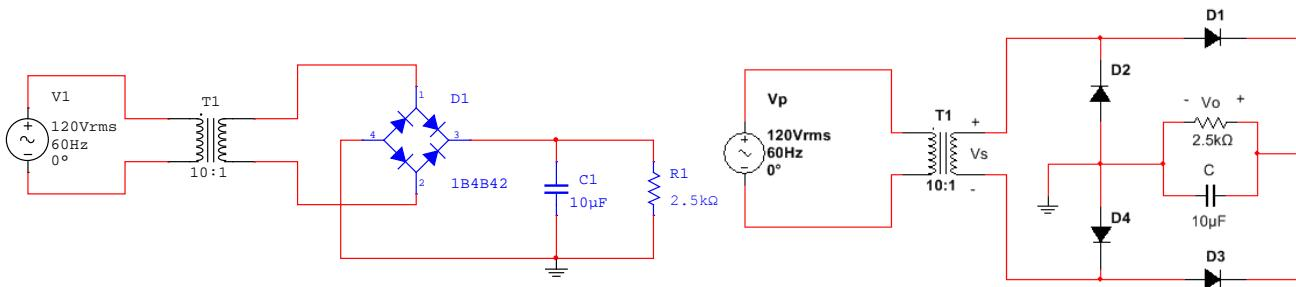

Figure 6.18: Full-Wave Peak Bridge Rectifier for Example 6.6.
*Example 6.6) Calculate the ripple voltage, % $V_r$ , and approximate DC voltage for the Full Wave bridge peak rectifier in Figure 6.18. Assume all diodes have voltage drops of 0.7 Volts.*
The circuit in Figure 6.18 shows the Full Wave bridge peak rectifier drawn in two different ways. The left circuit requires a diode bridge to be used (4 diodes in one package configured as a bridge). The right circuit is much more convenient and useful because it allows for specific individual diodes (such as the 1N4007) to be used.